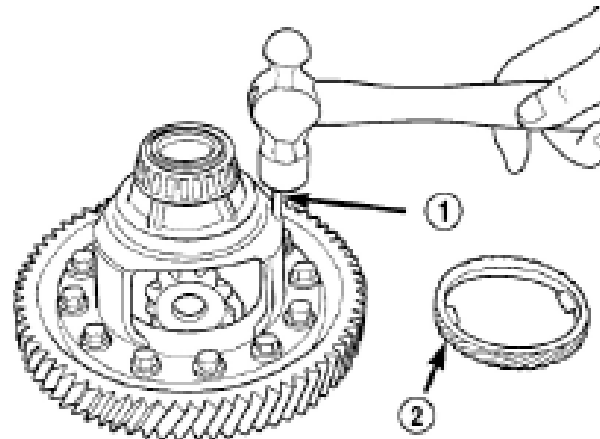

Figure 3-91 Assembly of bumper pin
(3) Install the pinion axle bumper pin in place with hammer and punch (Figure 3-91).